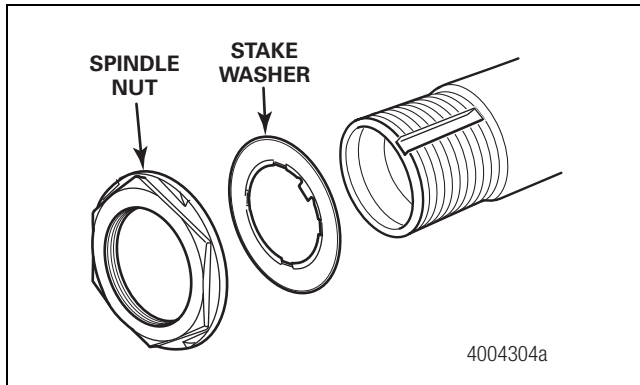

Figure 4.17
3. Check the spindle threads. Figure 4.17.